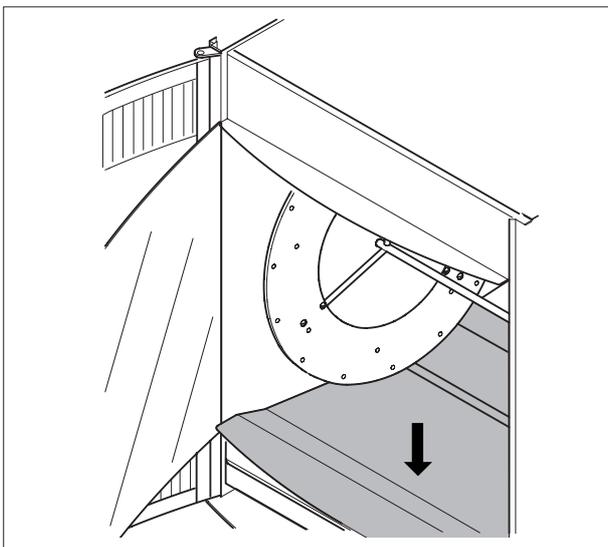

Figure 2.1
- Put the bottom plates in the STG (see figure 2.1).